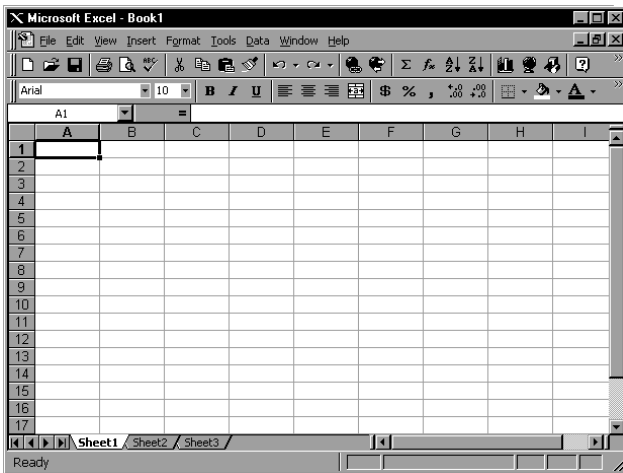

Figure C-1 Excel Window
1. Export the event data to a tab delimited text file, as described in section 5.6.6: **Export the displayed data to a text file**. Assume we have just exported the event data to a file called TextEvent.txt in C:. To convert that file to a MS-Excel file, open the MS-Excel software, as shown in Figure C-1.